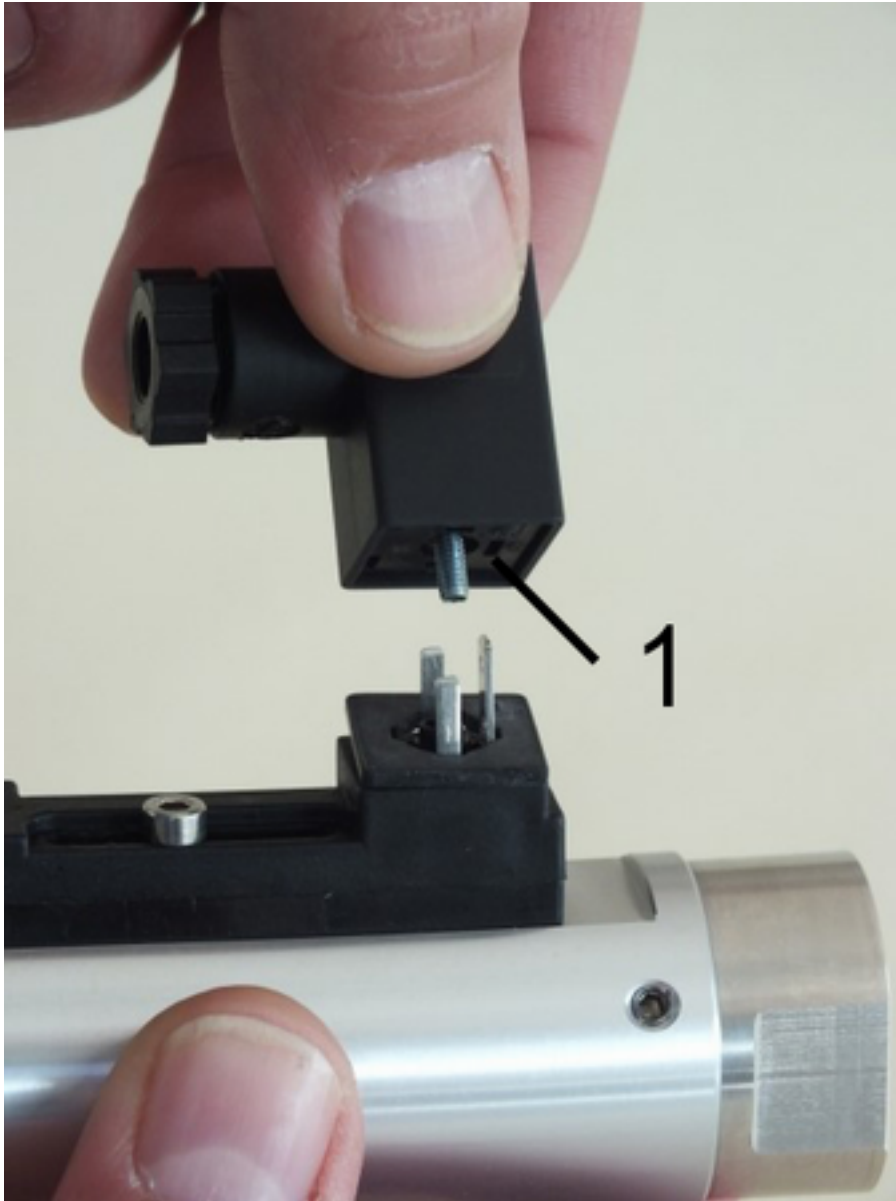

Fig. 53: Remove the female socket
2. ➤ Remove the female socket and gasket (*Fig. 53/1*) by pulling upwards